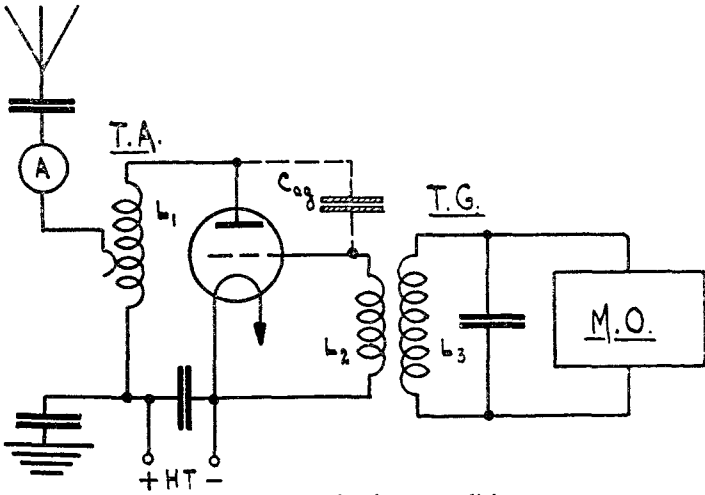

FIG. 63.—Necessity for neutralising.
7. Neurodyne (Neutralising).—At high R.F. the P.A. may act as a T.A.T.G. oscillator, the grid circuit being the M.O. anode circuit and the coupling device (fig. 63). The aerial is also coupled to the M.O. output circuit via the C_{ag} of the P.A. and the coupling device $L_2 L_3$. Hence this coupling must either be destroyed or “neutralised”.